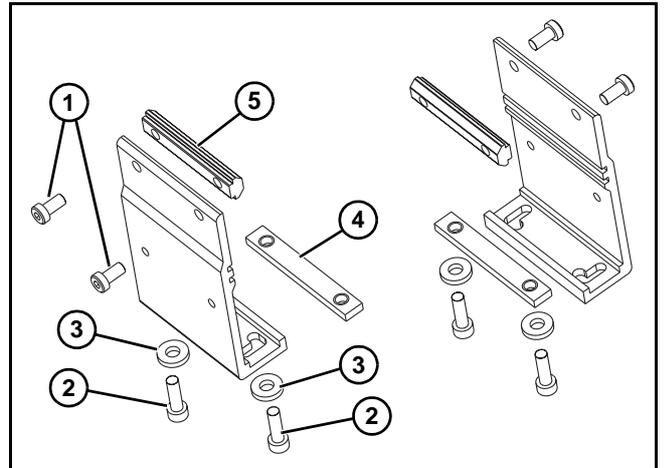

Figure 7
1. Locate brackets. Exploded view shown in Figure 7.
2. Remove screws (Figure 7, item 1 & 2), washers (Figure 7, item 3), nutbars (Figure 7, item 4) and T-bars (Figure 7, item 5) from brackets.
3. Insert T-bars (Figure 7, item 5) into conveyor side slots (Figure 8, item 1). Fasten brackets (Figure 8, item 2) to conveyor with mounting screws (Figure 8, item 3).